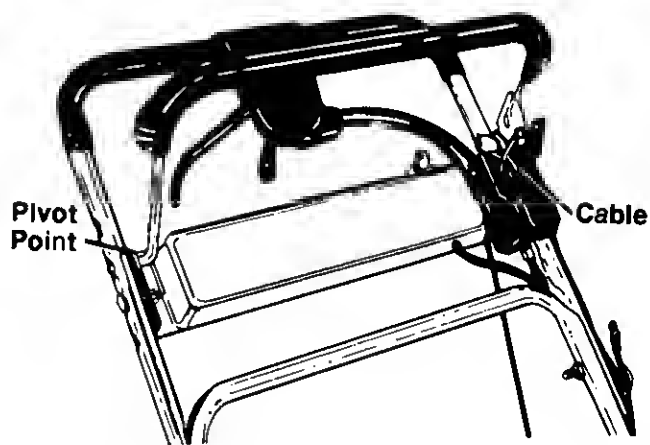

FIGURE 26.
**Blade Control**—Lubricate the pivot points on the blade control handle and the brake cable at least once a season with light oil. See figure 26. The blade control must operate freely in both directions.